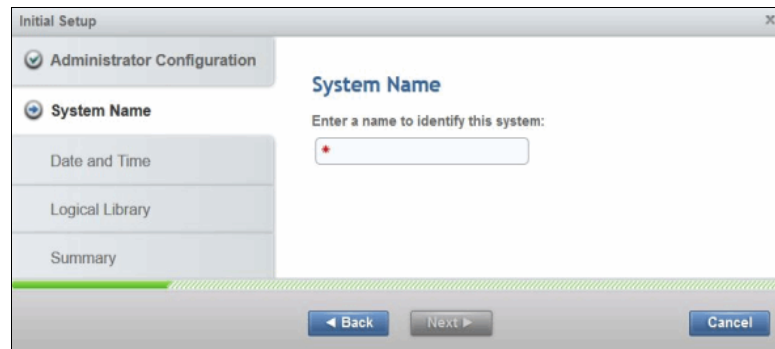

Figure 4-5 Setting the system name
1. In the window, as shown in Figure 4-5, you can enter the name of your library.